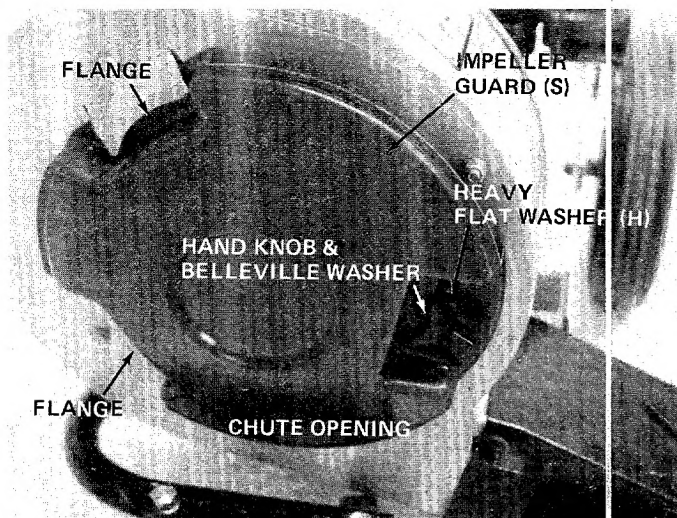

FIGURE 13
5. Lift up and out on the housing and rotate it 105° clockwise. Chute opening should be to the right hand side when viewed from the front of unit. See figure 13.
6. Place the impeller guard (S) into flanges on front of housing. Line up hole in screen with hole on housing. Secure with one hand knob, belleville washer and heavy flat washer (H). See figure 13.